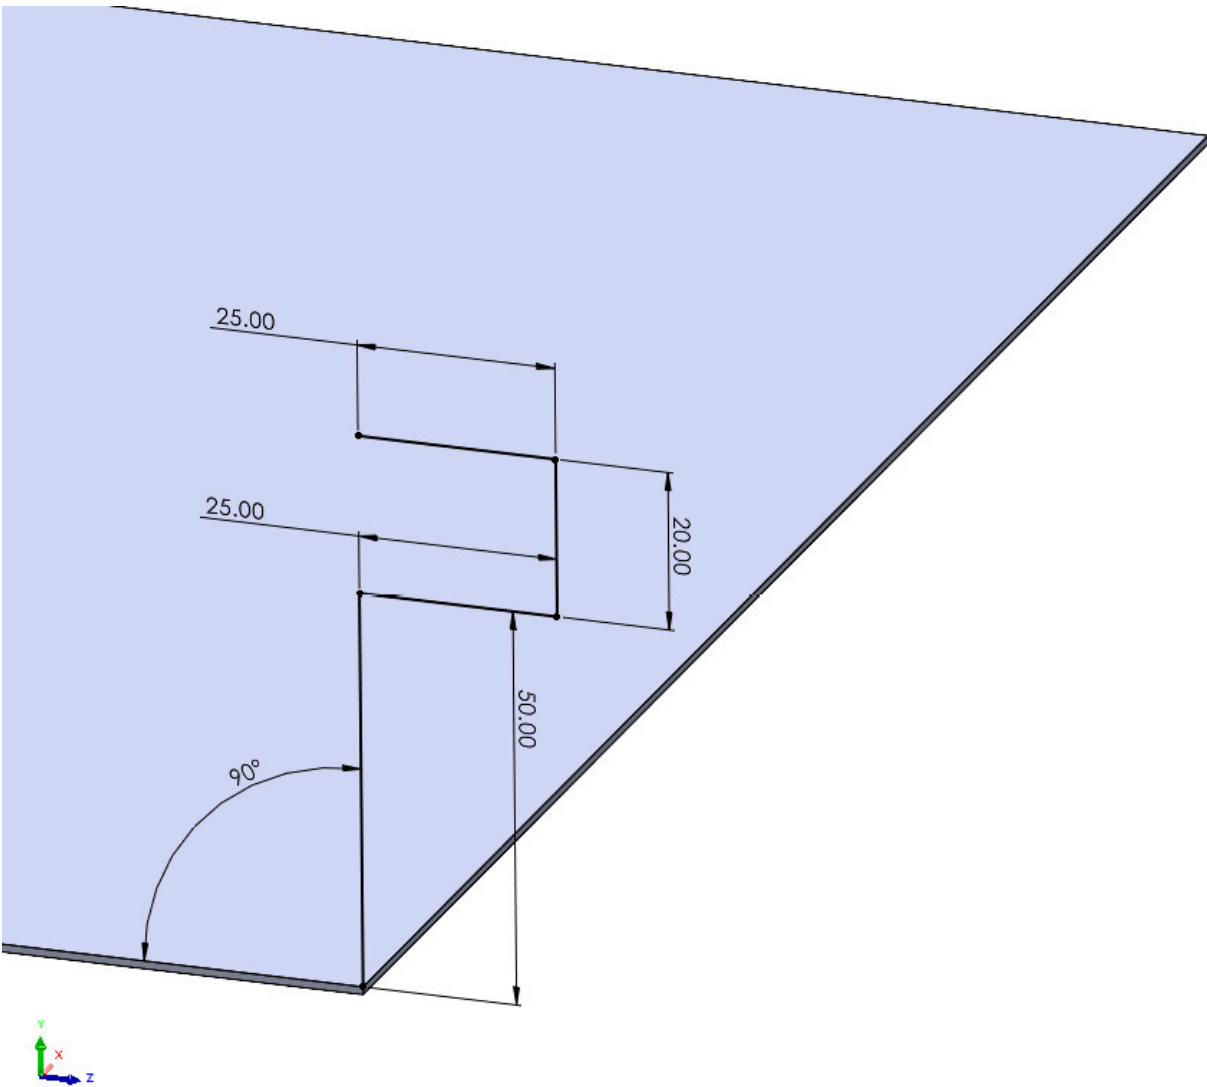

Figure 3.14: Try adjusting the Miter Flange profile sketch similar to this
2. We can now edit the line and add multiple new lines. Try creating a sketch similar to the one shown in *Figure 3.14*: